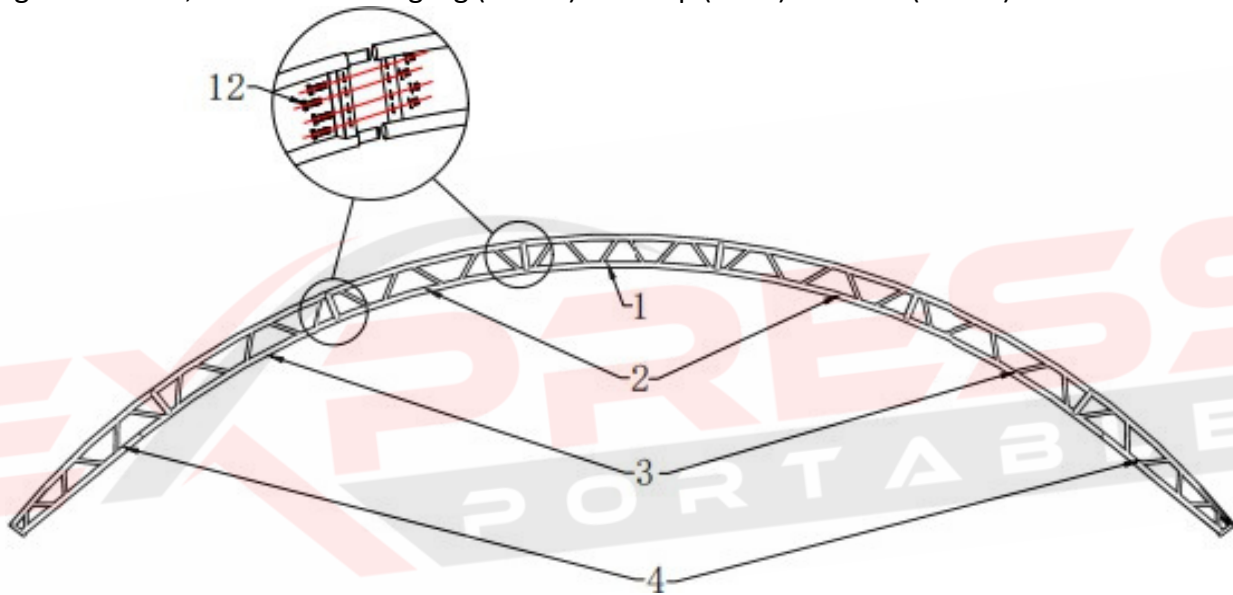

Figure 3
3.1As Figure 3 shows connect the top bent tube (NO.1), middle bent tube (NO.2), and sidewall bent tube (NO.3) by using Bolt (NO.12), which makes one group of arches.